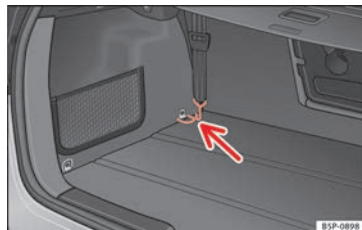

Fig. 108 Fastening rings for the separation net.
- Hook the belts into the front fastening rings to tense the net » **Fig. 108.**